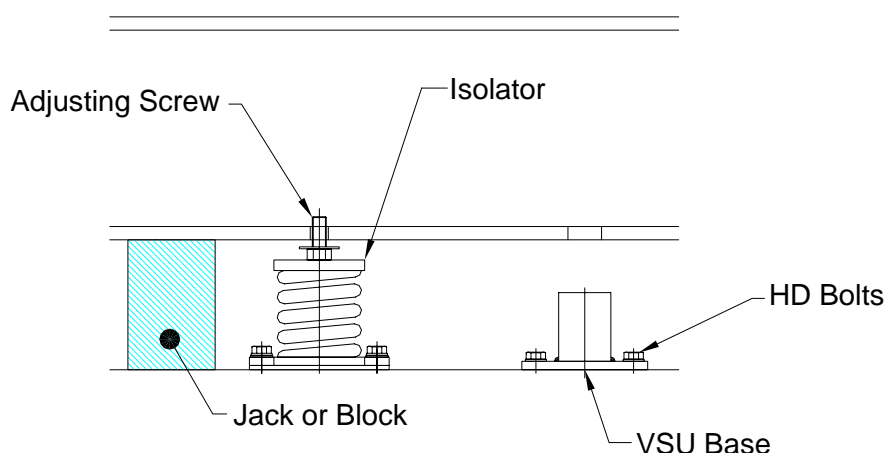

Figure 1
3. After the isolators and vertical stop unit bases are in position, the machine base should be levelled and supported just clear of the Open Spring adjusting screw fixed nut, (See Figure 1), using jacks or blocks ensuring alignment between isolator / VSU screws and machine base fixing holes.